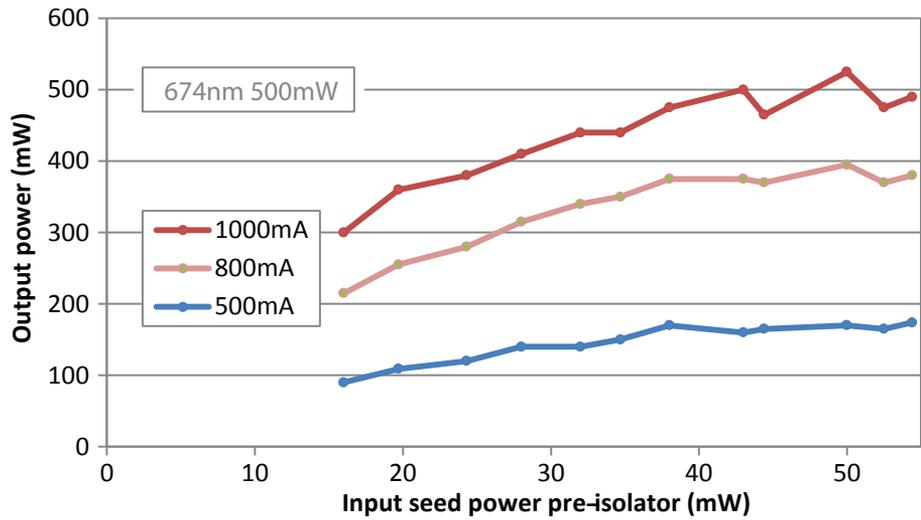

Figure 2.4: TA output against seed power, for several injection current values.
2. With TA current of 0.3 A (500 mW devices), 0.5 A (1000 mW devices) or 0.7 A (2000 mW devices), increase the seed power and verify significant output from the TA (see figure 2.4). The TA output is predominantly ASE (amplified spontaneous emission) until the seed power is increased to several milliwatts. The TA output will normally saturate with seed power of 10 mW to 50 mW depending on the specific TA diode and the efficiency of coupling of seed into the amplifier.